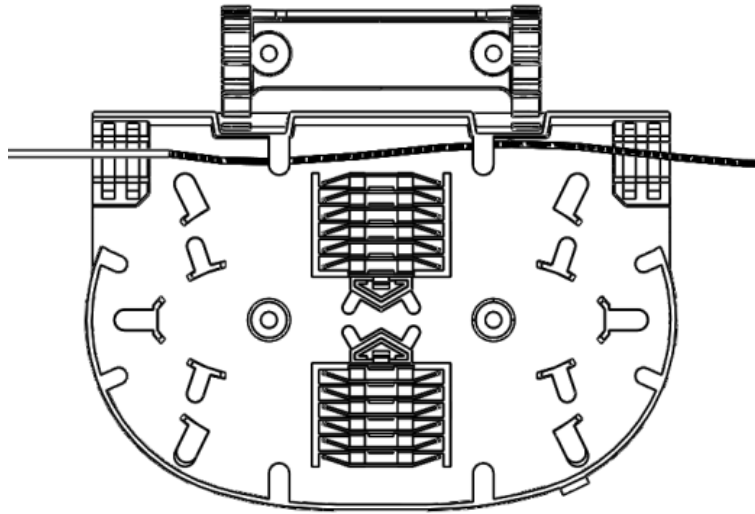

Fig.19
3.6.5. Open the jacket or tube and clean the fibers (Fig. 19)